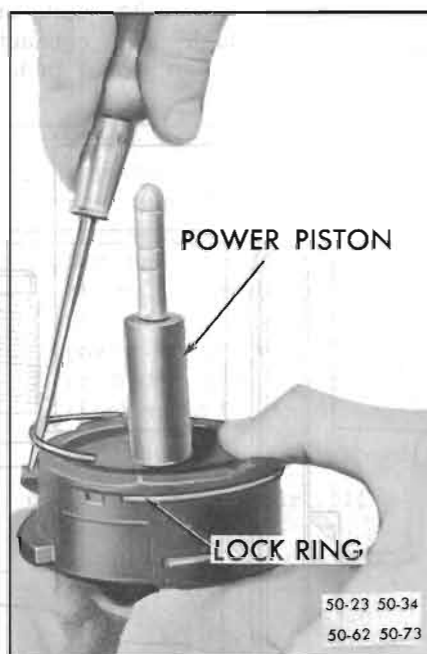

Figure 50-34—Installing Power Piston Lock Ring
26. There is a lug on the power piston which has a raised divider in the center. One end of the lock ring goes under the lug and on one side of the divider. See Figure 50-34.